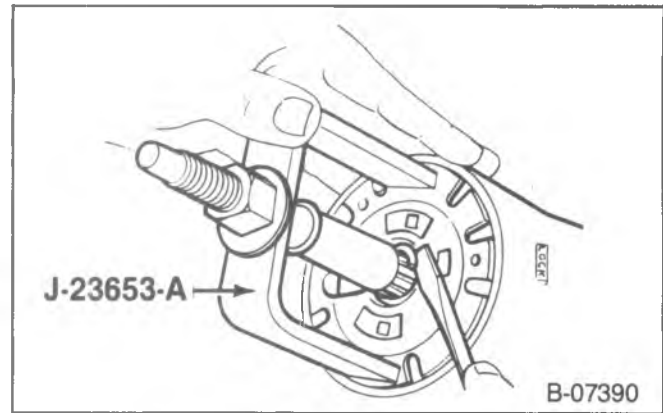

Figure 11—Retaining Ring Removal
↔ Remove or Disconnect (Figures 11 through 13)
- Screw the center post of J-23653-A onto the steering shaft as far as it will go. Compress the lock plate by turning the center post nut clockwise. Pry the retaining ring out of the shaft (figure 11). Remove J-23653-A.